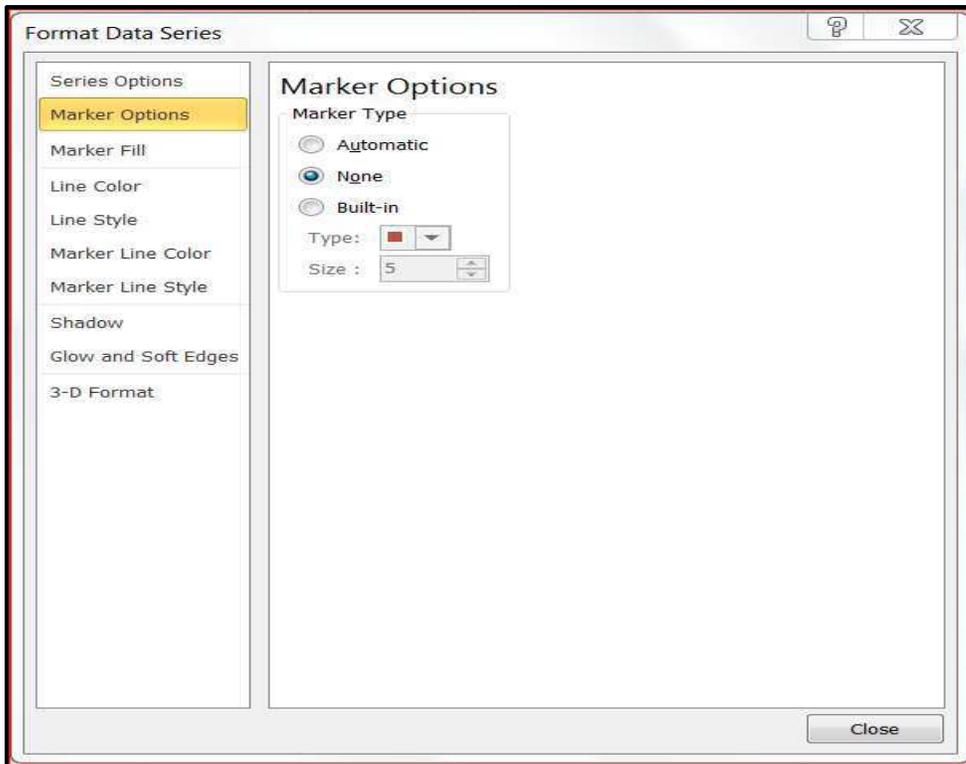

Figure 6
- ⇒ Click on the Marker Options tab in the dialog box and choose the None option, as shown in Figure 6.